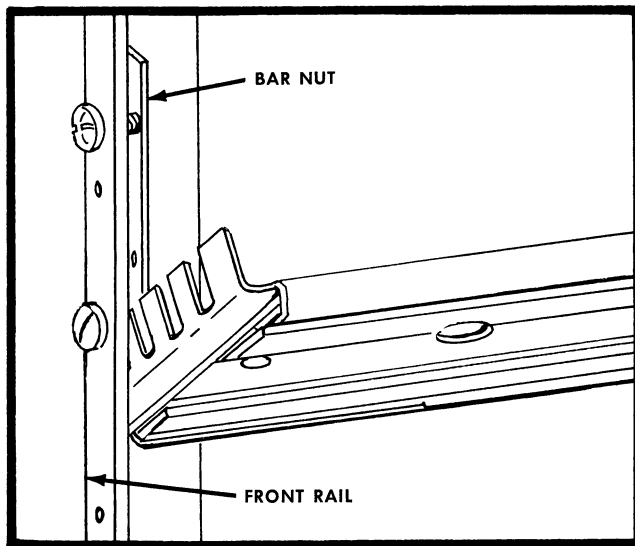

Fig. 2-4. Mounting the Chassis-Trak stationary section to the front rail of the cabinet rack.
3. Slip the stationary section mounting flange between the front rail and the bar nut so that both mounting screws hold it in place (see Fig. 2-4). Tighten the screws so the stationary section is held firmly to the front rail.